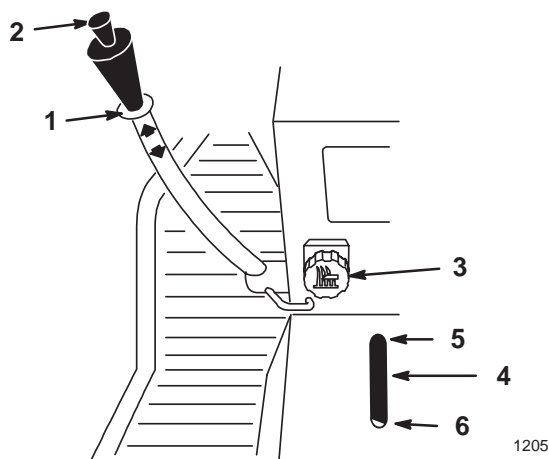

Figure 17
The attachment lift lever (Fig. 17) is used to raise and lower various attachments.
The Dial-A-Height control (Fig. 17&18) is used to limit the downward travel of the attachment. The Dial-A-Height knob is rotated to change the location of this stop, up or down.
1. Raise the attachment lift lever: Refer to Raising Attachments. In the raised, position the Dial-A-Height knob (Fig. 17&18) can be rotated to change the stop location. Turn clockwise to raise and counterclockwise to lower the height of the attachment.
2. The Dial-A-Height indicator (Fig. 17&18) will show the change, high to low, in attachment lift height as adjustment is made.